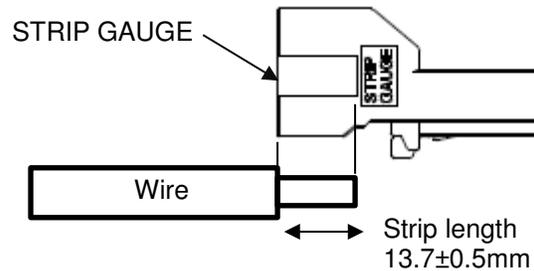

Fig.2
*Strip length could be confirmed by comparing with strip gauge on 2 sides of receptacle assembly as Fig.2 shows.